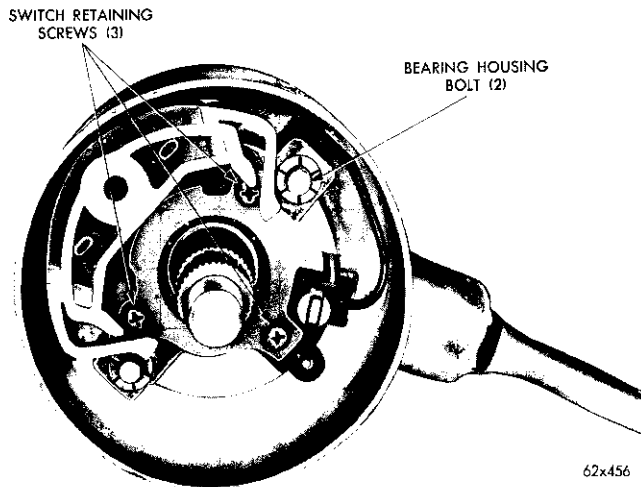

Fig. 5—Steering Column—Upper End
(1) Remove the turn signal lever retaining screw and remove the lever.
(2) Remove the three recessed head switch retaining screws (Fig. 5) and pull the turn signal switch and switch plate up and out, feeding the wires and connectors through the steering column jacket.
(3) Disengage the column jacket lower seal from the lip on the jacket, and slide the seal down toward the coupling.
(4) Exert an upward force on the steering shaft to force the steering column jacket upper bearing and insulator up and out of the counterbore in the bearing housing. Remove the insulator from the bearing.
(5) Using snap ring pliers Tool C-3128, remove the
(21) Turn the steering wheel retaining nut to exert pressure on the installing sleeve, upper snap ring, and bearing, pressing the bearing down onto the knurled section of the steering tube and against the lower snap ring.
(22) Exert sufficient pressure against the upper snap ring to flatten it against the bearing so it can enter the groove in the steering tube. Be sure the snap ring is firmly seated in the groove.
(23) Place the insulator over the bearing, then slide the steering shaft, bearing and insulator downward into the counterbore provided in the bearing housing.
(24) Position the directional switch assembly in the bearing housing, while feeding the turn signal and horn wires through the steering column and out through the opening provided in the column jacket.
(25) Place the switch plate over the switch, and install the three switch retaining screws (Fig. 5). Tighten screws to 24 inch pounds torque.
(26) Position the turn signal lever in the assembly, sighting down through the hole in the switch to align the screw hole, and install the lever attaching screw. Tighten screws to 24 inch pounds torque.